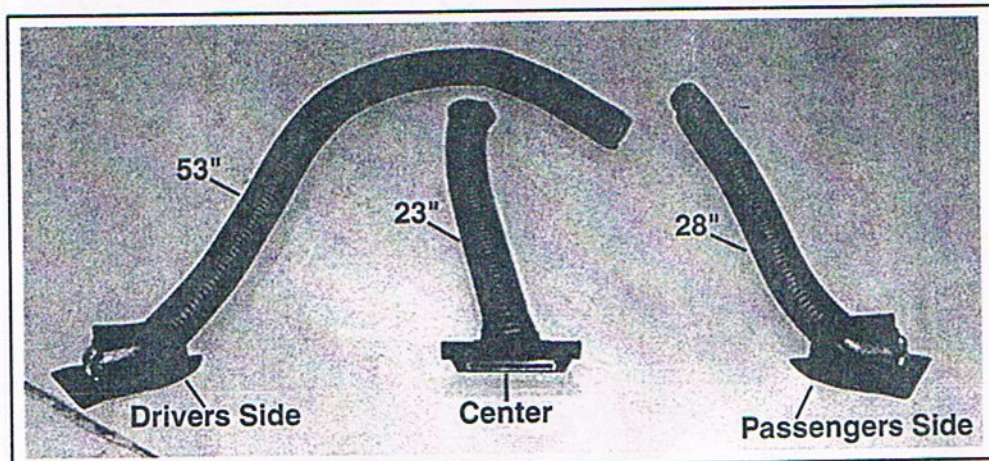

FIGURE 12
25. Obtain the side panel louvers and the center louver, secure the 2-1/2" flex hose to each louver (as shown) and secure into position with hardware provided. (FIGURE 12)